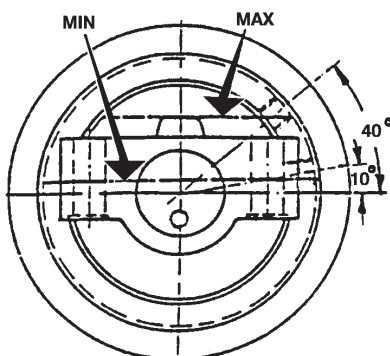

Fig. 3-76 Track roller - oil level
4. After filling with oil, check for correct level (fig. 3-76).